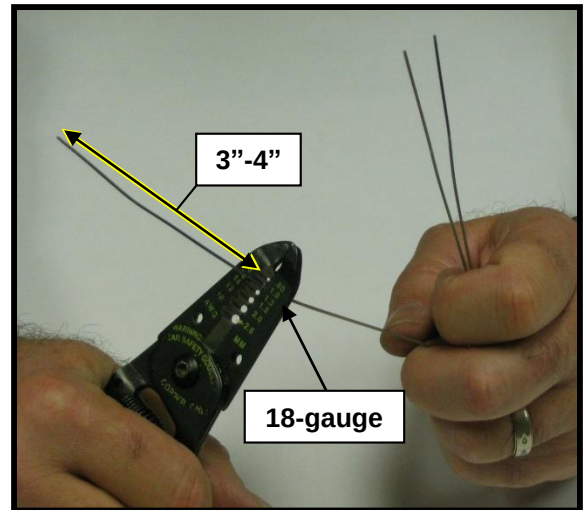

Figure 5
5.5 Stripping the Inner Nylon Jacket. Use a wire stripper to strip the first 3"- 4" of the Nylon Sub-Unit. Insert the first Sub-Unit into the 18-gauge position of your wire stripper be sure that the Sub-Unit is positioned "lays" at the same angle of the cutting blades. Use a light touch/squeeze to carefully shear off a portion of Nylon. Once you've sheared the Jacket, put the tool down.. See Fig.5 and 6.
Refer back to Fig. 5.